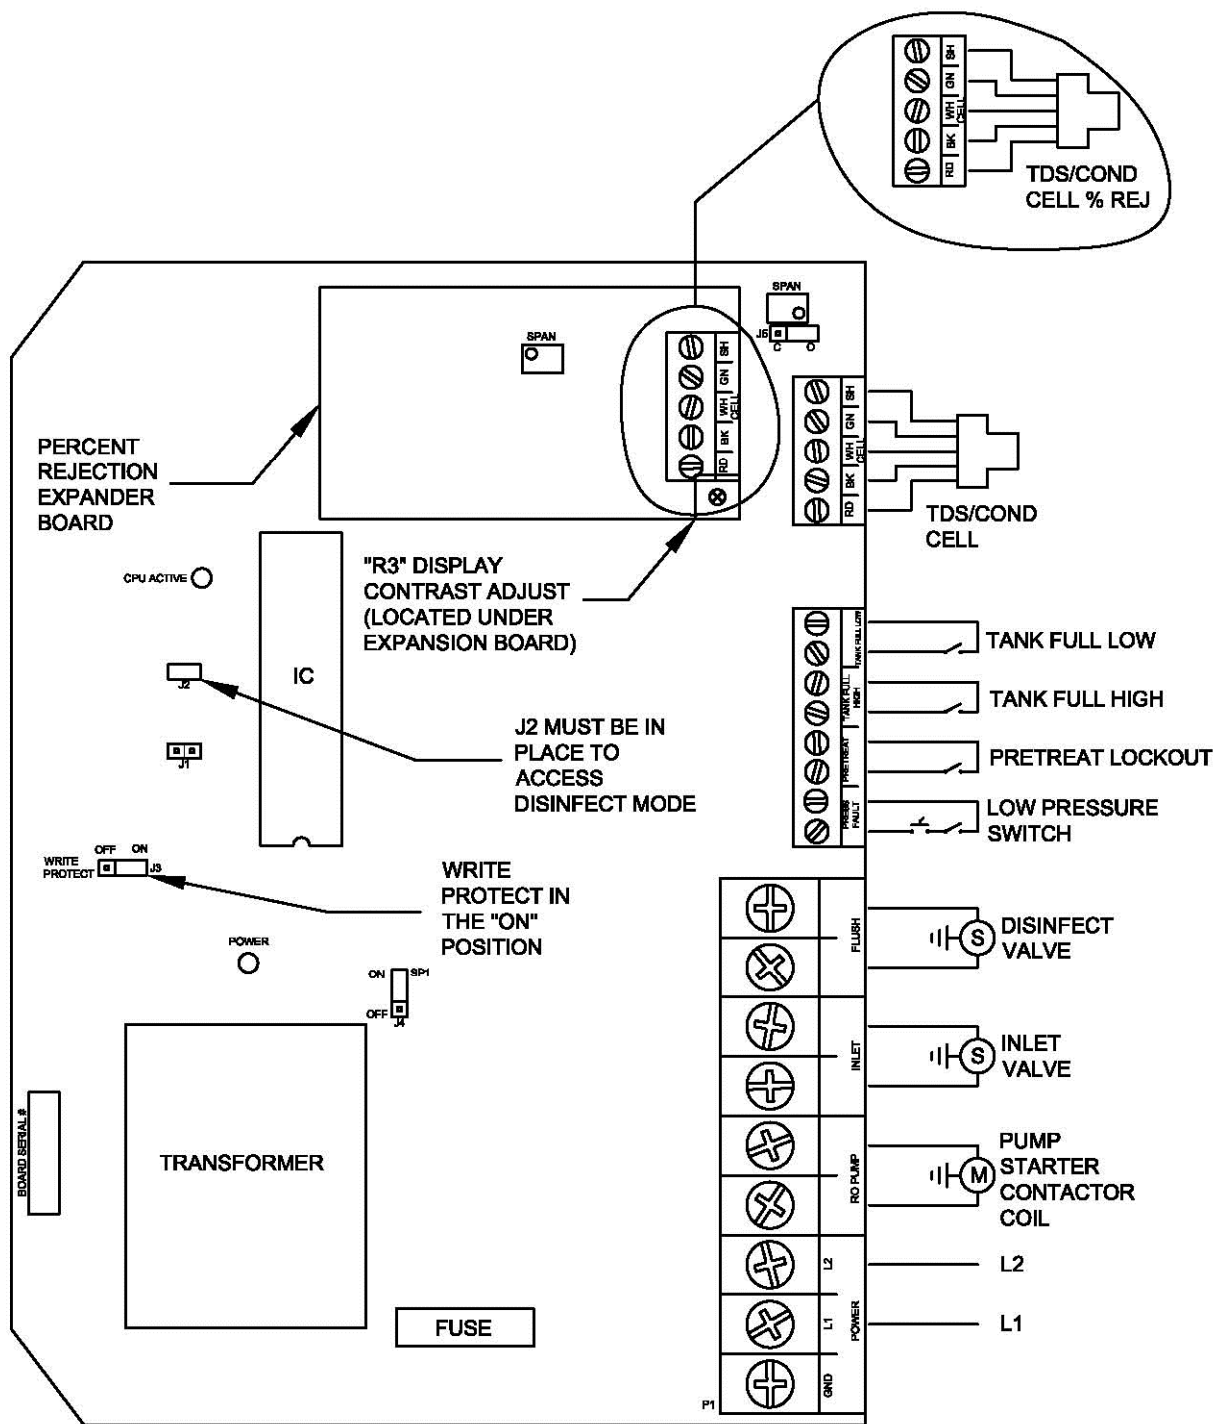

FIGURE 5.2
Refer to Figure 5.2 for adjustment location (SPAN). To calibrate the Conductivity, place the cell in a known standard solution. Adjust the span adjustment for the correct reading. If the cell is installed, the unit can be calibrated by taking a sample from the PRODUCT TEST PORT and testing it with a known, calibrated meter. Adjust the span control until the reading matches the meter.
1. Refer to Figure 5.1 for the location of the keys used to display or change the Setpoints and Figure 5.2 for the location of the write protect jumper, J3. For the unit to be able to accept a change in a Setpoint, the shorting jumper must be in the WRITE PROTECT OFF position (center and left pins).